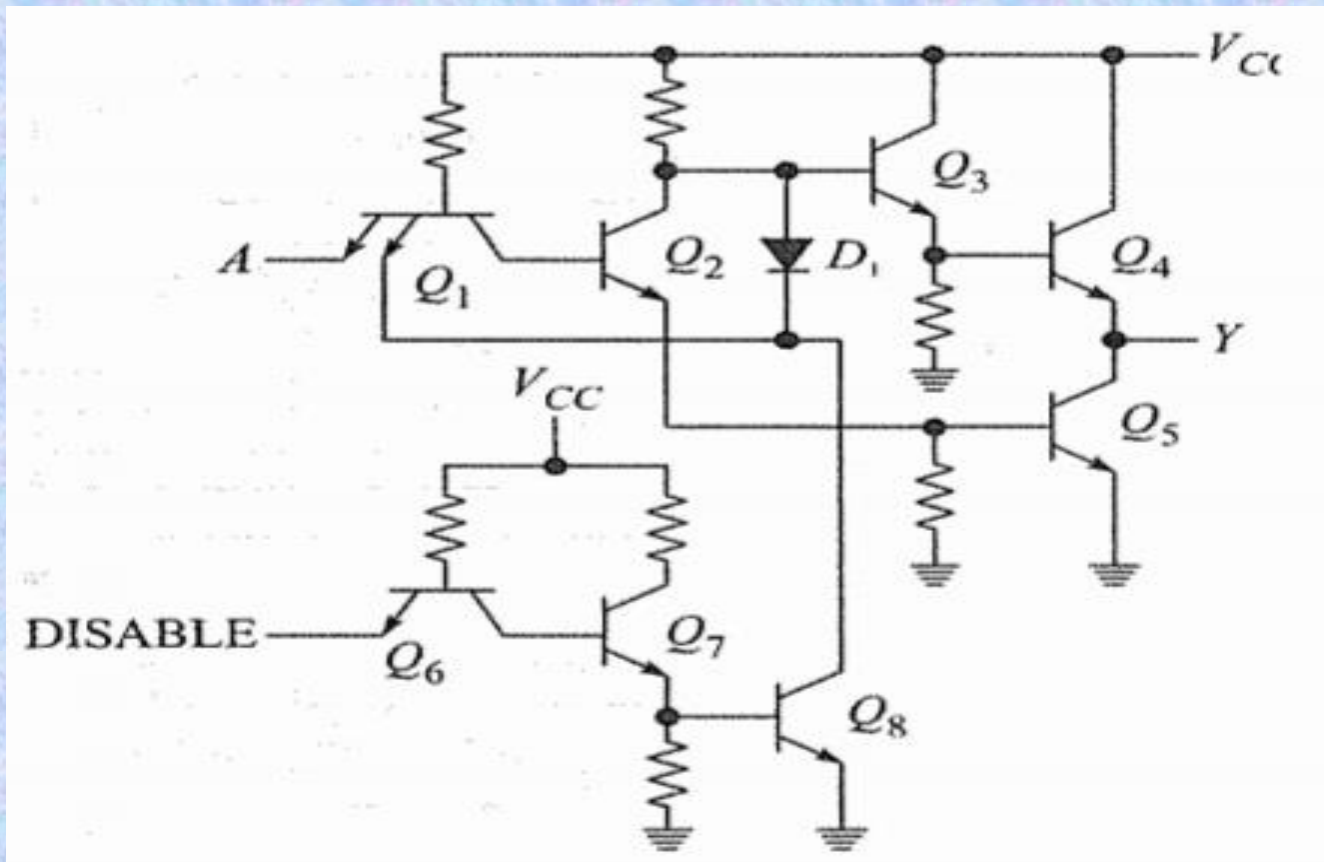

Fig. 1.24 Three-State Inverter
- Figure 1.24 shows a simplified drawing for a three- state inverter. When DISABLE is low, the base and collector of Q_6 are pulled low. This cuts off Q_7 and Q_8 . Therefore, the second emitter of Q_1 and the cathode of D_1 are floating. For this condition, the rest of the circuit acts as an inverter: a low A input forces Q_2 and Q_5 to cut off, while Q_3 and Q_4 tum on, producing a high output. On the other hand, a high A input forces Q_2 to turn on, which drives Q_5 on and produces a low output.
- In conclusion, the output of Fig. 1.24 can be in one of three states: low, high, or floating.